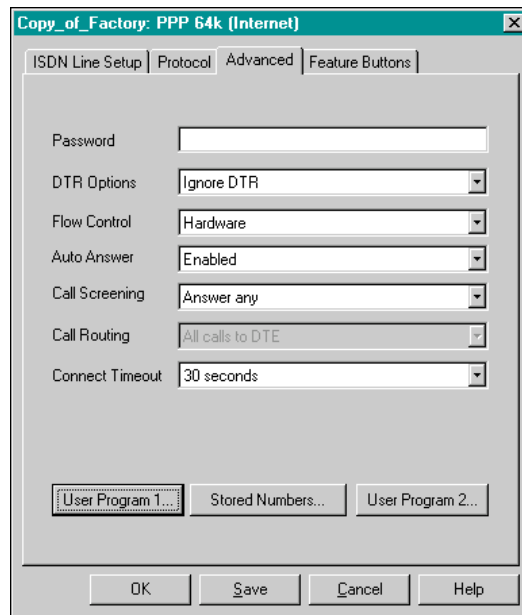

Figure 4-3
3. Choose the **Advanced** tab (shown in Figure 4-3).